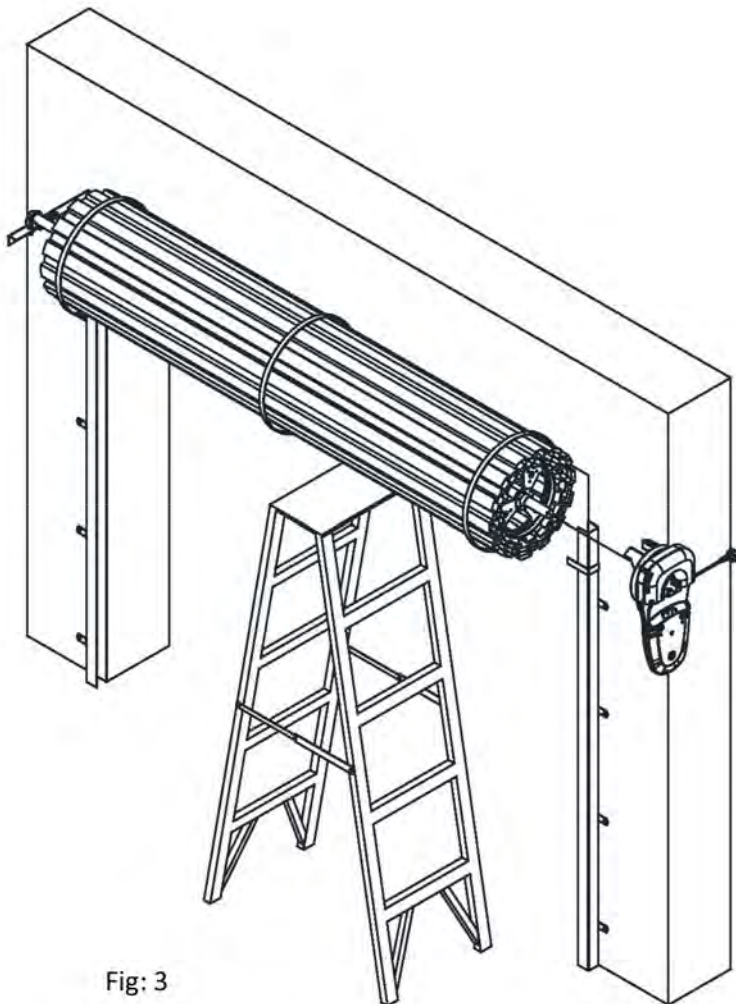

Fig: 3
- e) Make sure the door supporting prop is secure. While the door is supported remove the right hand wall mount bracket. (Fig. 3)